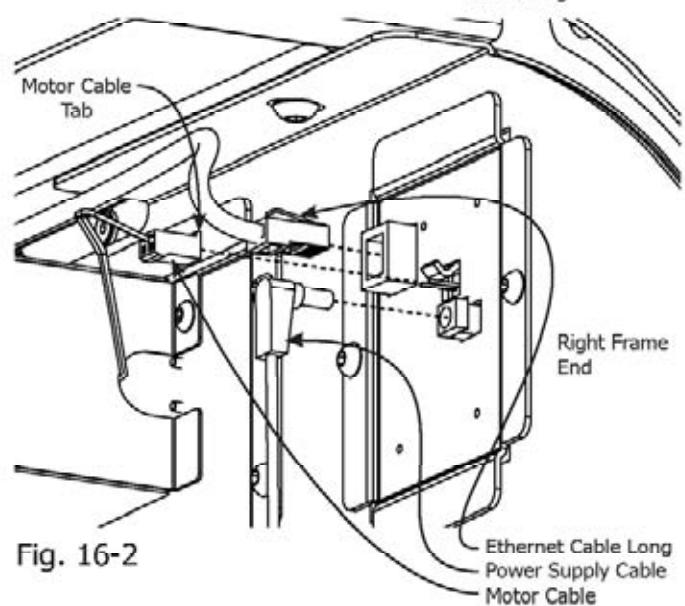

Fig. 16-2
**16-2:** Plug the Ethernet Cable Long, Power Supply Cable, and Motor Cable into the corresponding ports in the Right Frame End. The Motor Cable Tab must be oriented upward. (Fig. 16-2 and Fig. 16-3)